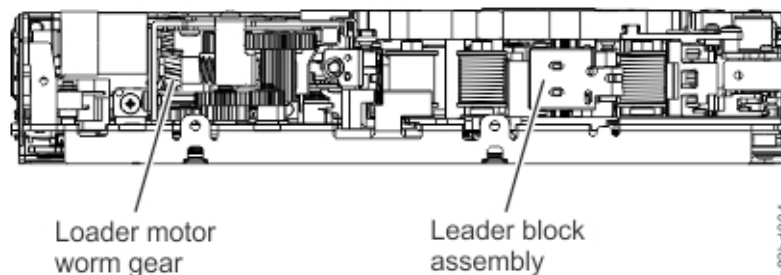

Figure 27. Leader block assembly (LBA)
6. Rotate the loader intermediate gear (**1** in Figure 27 on page 88) clockwise as viewed from the front of the drive until it stops. This action releases the LBA leader pin.
7. Rotate the threader motor worm gear (**3** in Figure 27 on page 88) counterclockwise until the leader block is in front of the read/write head. This action moves the LBA out of the cartridge.
8. Rotate the loader motor worm gear (**3** in Figure 27 on page 88) counterclockwise as viewed from the front of the drive until it stops.